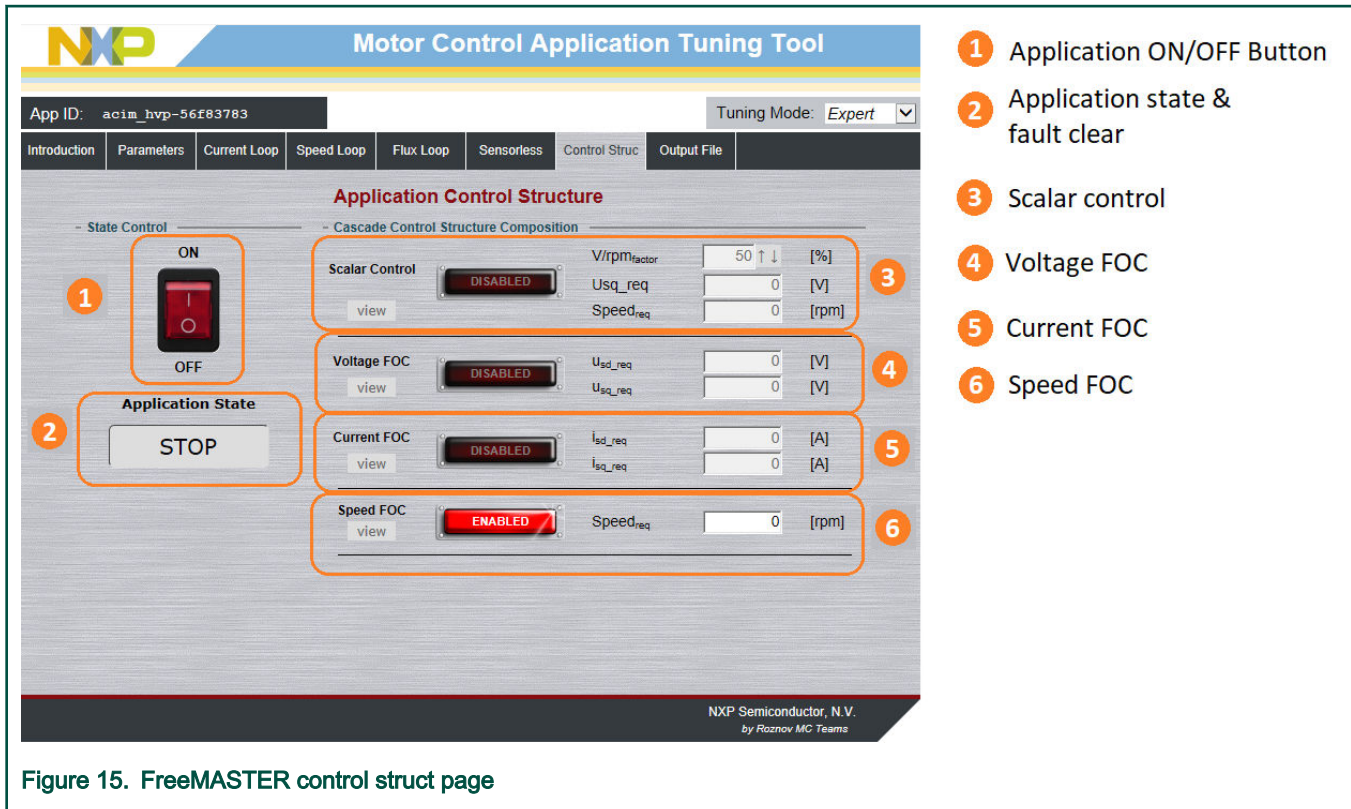

Figure 15. FreeMASTER control struct page
- To start the motor, set up the required speed in the "Speedreq" box (Figure 15 – point 6).
- In case of a fault, click on the fault notification to clear the fault (Figure 15 – point 2).
4. Set up the required motor speed, as shown in Figure 15.
1. Click the "STOP" button in the FreeMASTER control page (Figure 15).
2. Set the speed to zero to "Speedreq" box (Figure 15 – point 6) or set the "Speed Required" variable to zero.
To clear the fault, remove the fault source (for example under-voltage) and click the fault notification in the control page (Figure 15).